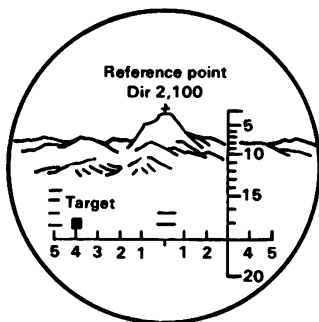

Figure 1.
(1) By binoculars: In looking through binoculars you will find a mil scale which is used to measure horizontal distance (figure 1). This scale is divided into 10-mil increments, with 100 mils across the scale. Let's say Hill
(2) Left Deviations - Subtract. In figure 1, we know the direction to the reference point (2100 mils). With the binoculars, we measure the deviation to be 40 mils. Since the target is left of the known point, we subtract the deviation (40 mils) from the known direction (2100 mils). The answer (2060 mils) is the direction to the target.